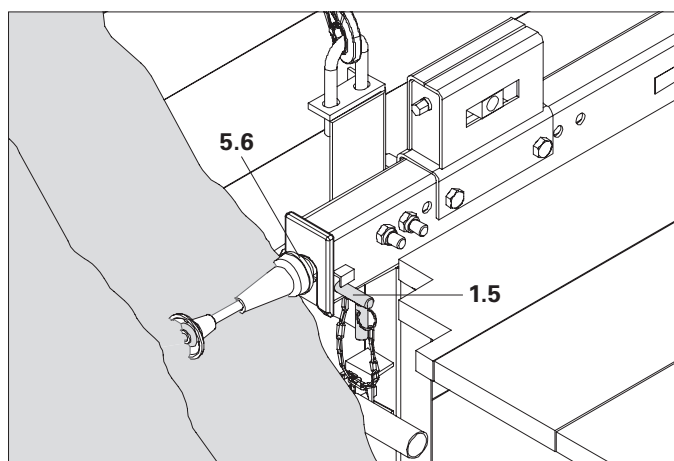

Fig. B1.22
2. Insert safety pins (1.5) into the opening under the Scaffold Mounting Ring (5.6) and secure by turning to a vertical position. (Fig. B1.22)